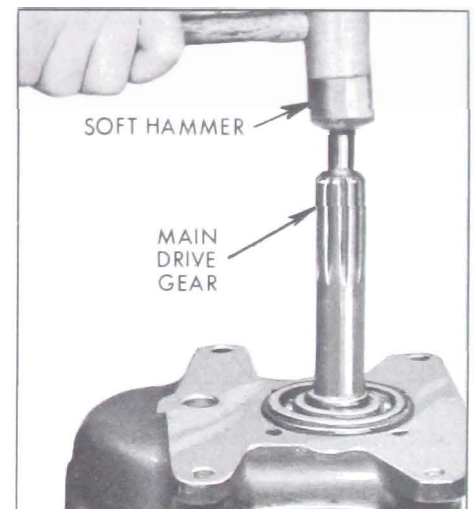

Figure 4-23—Removing Main Drive Gear
14. With soft hammer, tap main drive gear down from front bearing as shown in Figure 4-23.